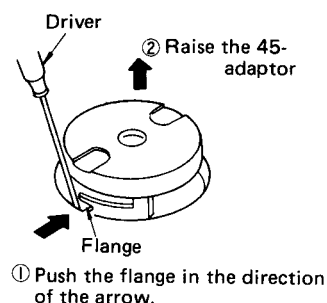

Fig. 3
3. Remove the 45 adaptor. (Fig. 3)